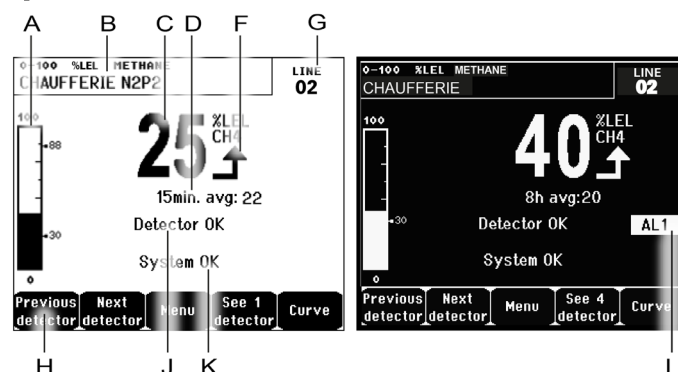
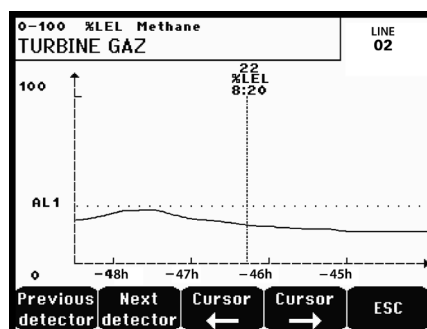

Figure 35: Example of the measurement display in normal mode and in grayscale mode
Figure 36: Example of a curve display screen
H.	Function keys. Previous detector: Display of measurements of previous detector; scanning of all the detectors on all the lines. <ul style="list-style-type: none"> • Next detector: Display of measurements of next detector; scanning of all the detectors on all the lines. • Menu: Display of main menu See paragraph "Main menu" on page 46. • See 4 Detectors: Display of a group of 4 detectors (detector tag, barograph with indication of alarms, value of current measurement with unit and gas detected). Use the Page down or Page up keys to display all of the next 4 detectors; passage to the next zone is automatic. • See 8 Detectors: Display of a group of 8 detectors (detector tag, value of current measurement with unit and gas detected). Other buttons similar to the selection. See 4 detectors. • See 1 detector: Display in normal mode (Figure 35). • Curve: Display of the measurement curves of the last 10 days (Figure 36). The → and ← keys allow cursor displacement through the time scale. The vertical dotted line displays the concentration and time stamp of the point being considered. Escape: return to display of values.
L.	Zone of indication of activated alarms with blinking threshold display. The screen changes to inverse video (Figure 35).